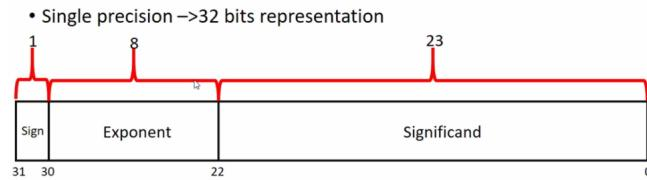

Figure 3.20: IEEE-745 Double Precision
2. Double precision (more accurate but consume more memory) shown in Figure 3.20.